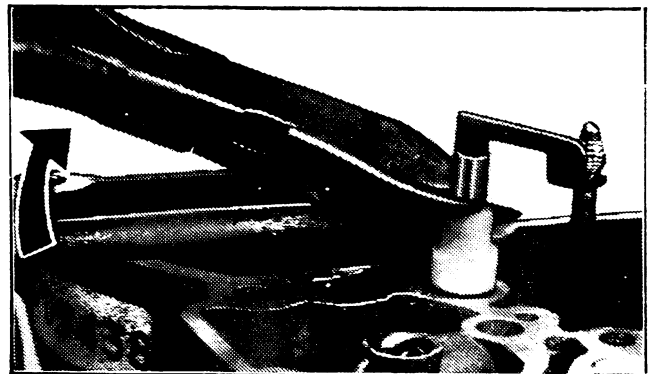

Figure 6C-125
9. Remove float pivot insert and float assembly (Fig. 6C-126).